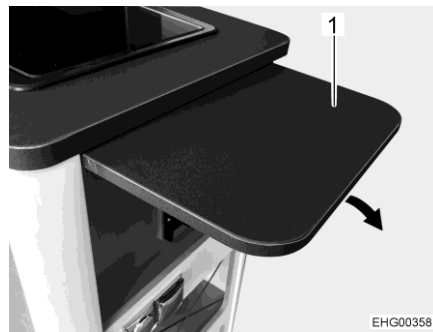
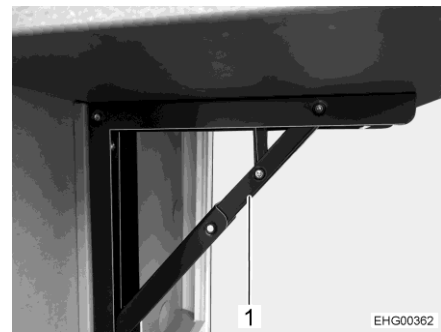

Fig. 26 Folding worktop
Fig. 27 Holder
- Fold worktop (Fig. 26,1) up until the holder (Fig. 27,1) snaps in.
- Fold holder (Fig. 27,1) in and fold worktop (Fig. 26,1) down.